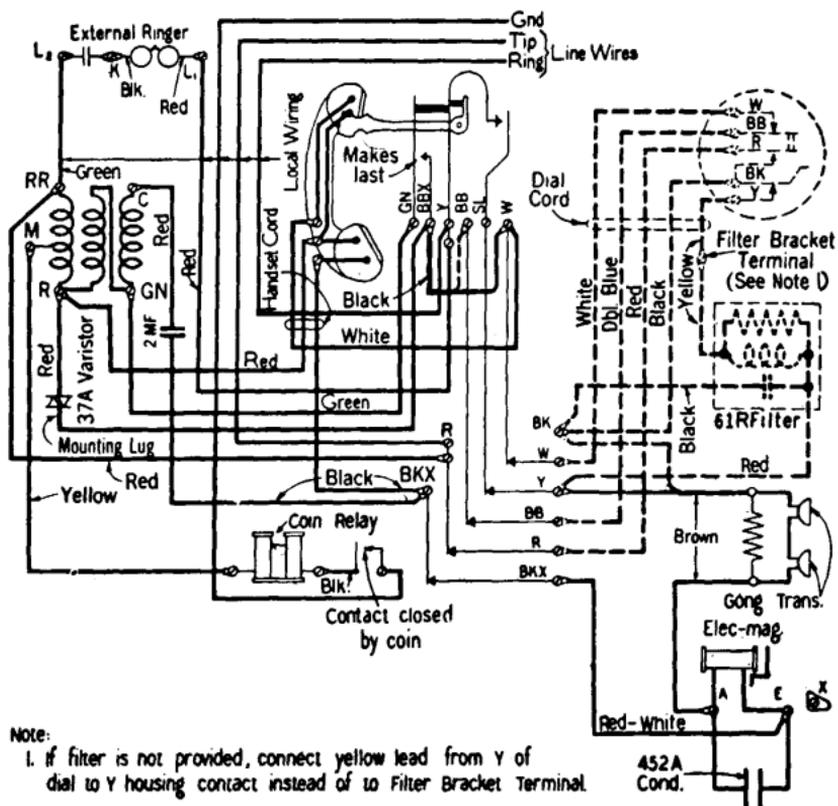

Fig. 9—191C, E, or G Coin Collector with 101B Ind. Coil
1.01 This section covers the connections of 55, 74, 155, 166, 174, 176, 191, and 195-type, D-178457, D-178875, D-178940, D-178942, D-179432, and D-179433 coin collectors for use at common battery antisidetone stations on a 10¢ initial charge basis. It is reissued to include the D-179432 and D-179433 (dial shorting) coin collector, now shown in added Fig. 15, to include the 195-type (pull bucket) coin collector covered in Figs. 9, 15, and 20, to modify the long loop circuits to prevent fraudulent operation, and to bring the color designations and notes of various circuit diagrams into agreement and up to date. The revisions in the circuits are of such a nature that the use of arrows to indicate changes is not practicable.